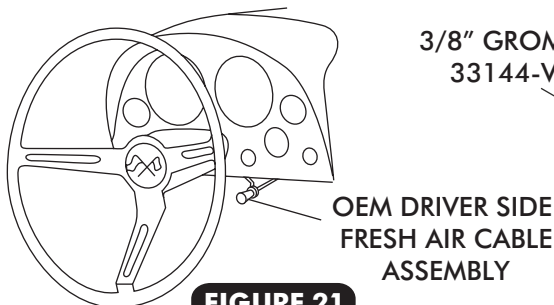

FIGURE 21
- REINSTALL OEM DRIVER SIDE FRESH AIR CABLE ASSEMBLY TO DASH. SEE FIGURE 21 BELOW.